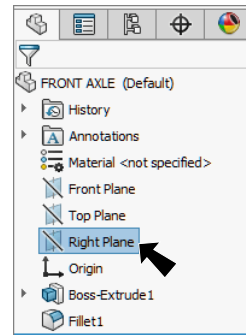

Fig. 8
Step 1. Click **Right Plane**  in the Feature Manager to select Plane, **Fig. 8**.